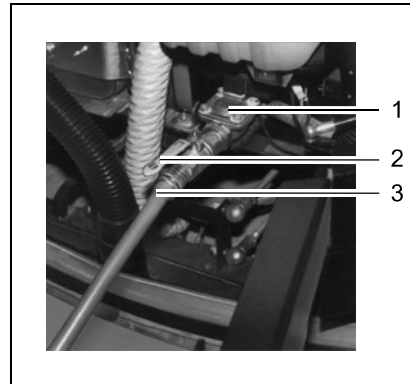

Fig. 28
2. Connect a filling hose (Fig. 28/3) with a connection diameter of 19 mm (3/4 inch).
3. Open the ball cock (Fig. 28/2).
4. Press the button for the solenoid valve (Fig. 28/1). This is located under the suction turbine.
The button for the solenoid valve (Fig. 28/1) can also be actuated when the key switch is switched off.
7. Close the ball cock (Fig. 28/2).
8. Disconnect the filling hose (Fig. 28/3).